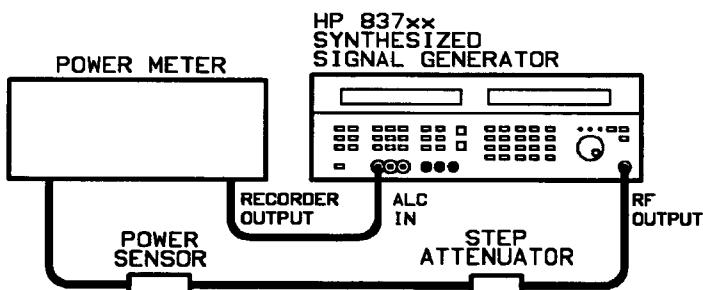

Figure 3-3. External Leveling Test Setup
1. Connect the equipment as shown in the Figure 3-3.